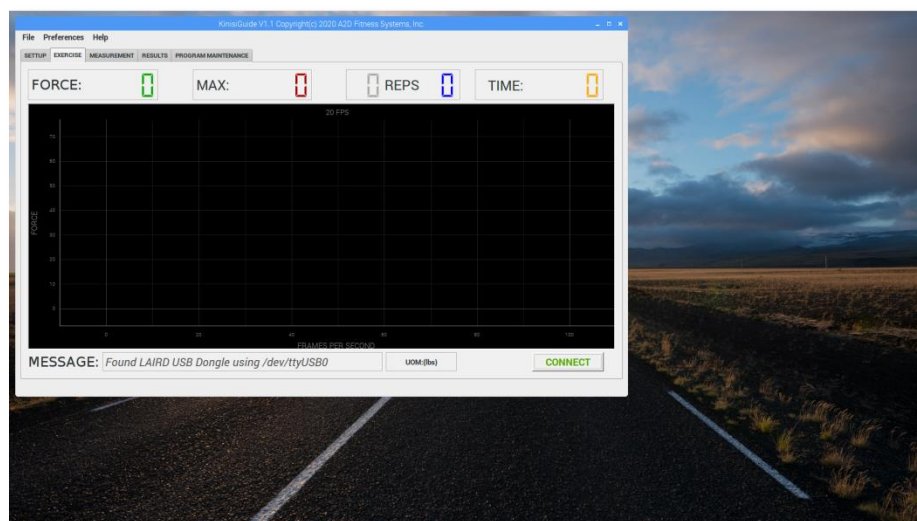

Figure 3 - Kinisi Application Software
9) Plug in the Base Station power adapter into an AC outlet and then plug in the small Micro-USB connector into the base station power socket. The Base Station Receiver will now start up, after a minute the Kinisi application software will automatically start and display the user interface as seen below in Figure 3